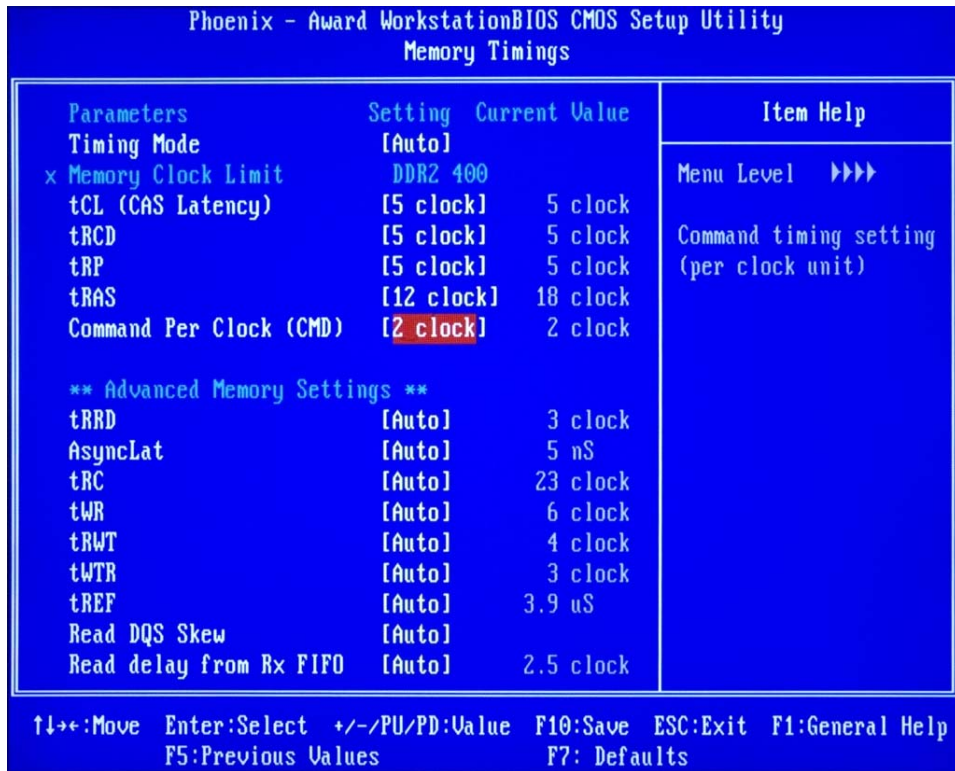

Figure 13. BIOS Memory Timings Settings for Memory Overclocking
4. Go to the **Memory Timings** BIOS menu shown in Figure 13 and set the values to match.